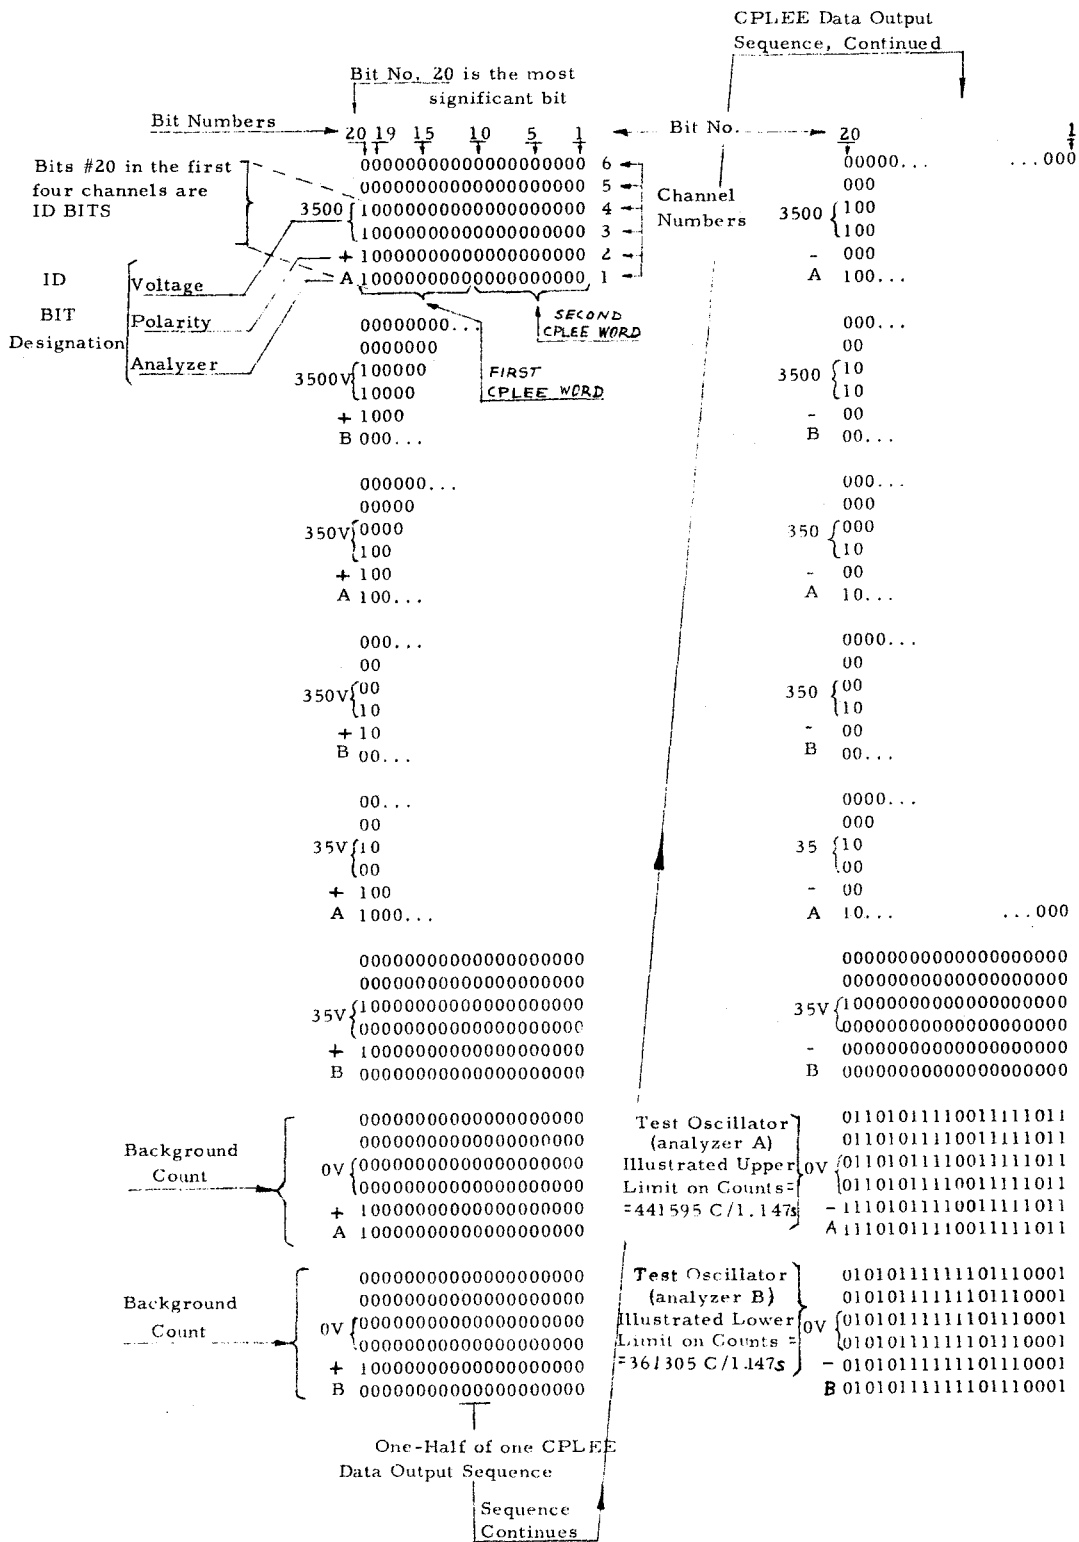

FIGURE 2 - One CPLEE Data Output Sequence
4. Stop the printer and compare at least six complete cycles (96 lines) with the format shown in Figure 2, and record in Table III.
5. Figure 2 shows the correct sequence, and the proper digital count for the test oscillator sequence. The test oscillator count is shown in Figure 2 for both specification limits (361,305 and 441,595 counts for a 1.147 second period.) Any count between these limits is acceptable. The first three digits right of the ID bits (i.e., bits number 19, 18, and 17) can be used for a quick check as shown below: